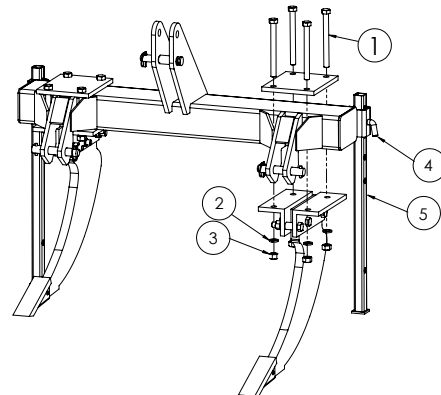

Figure 3. 2S Shank Assembly
4. Attach the shank preassemblies onto the frame, as shown in Figure 3 using four per shank 3/4" x 8" GR. 5 bolts supplied (Ref. 1), four per shank 3/4" lock washers (Ref. 2) and four per shank 3/4" hex nuts (Ref. 3).